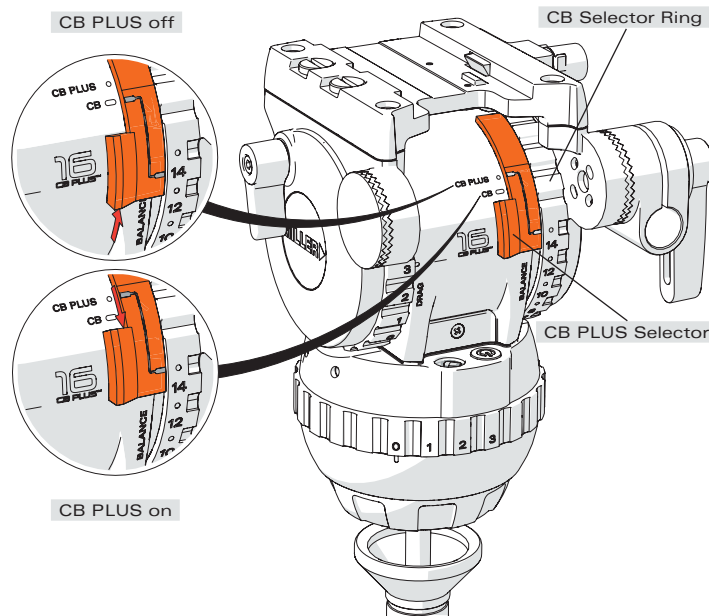

Fig. 4
The counterbalance system was designed to neutralise the effect of the camera weight when it is tilted. The Compass^x Fluid Head offers a 16 position counterbalance system which is operated with the CB SELECTOR RING and the CB PLUS SELECTOR (Fig. 4). With the Compass^x systems it is also possible to disengage counterbalance (position zero),
- 3.1 For safety it is generally better to start at a higher counterbalance position (e.g. position 14) and work your way to the correct setting, this is to reduce any chance of unwanted tilt drops (Fig. 4).